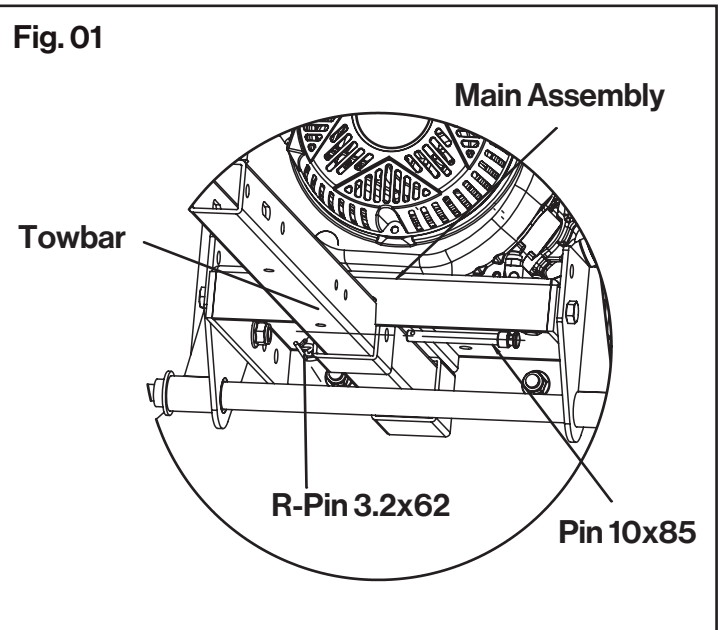

Fig. 02
2. Attach the clevis pin hitch to the towbar using two M10x70 bolts and two M10 nuts. **(Fig. 02)**